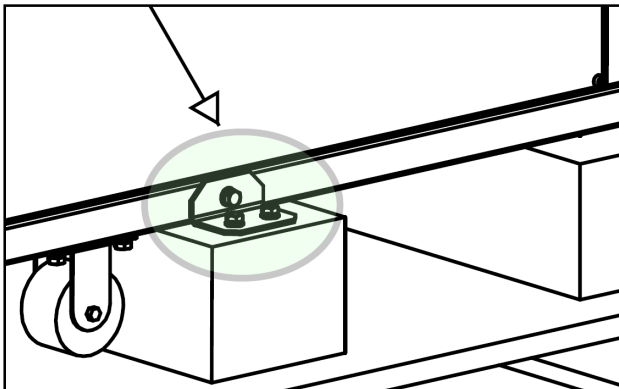

Fig.5
As shown in Fig. 5, the machine is mounted on a pallet by four (4) L shaped brackets. Remove the 4 brackets by loosening the bolts. Lift the machine by the forklift and remove the pallet